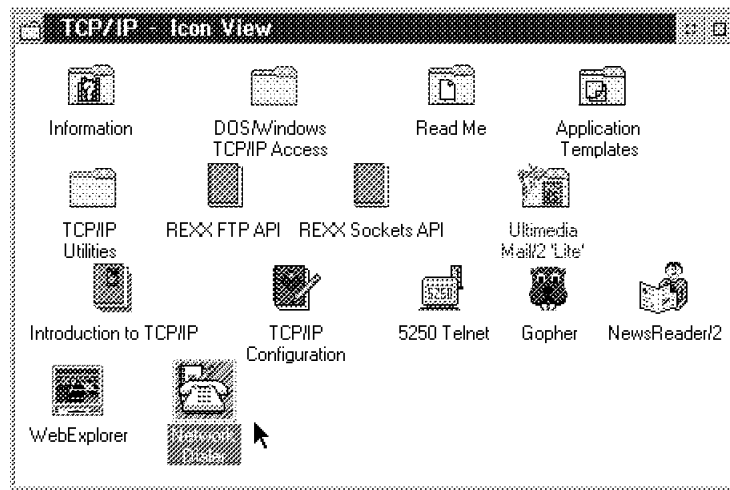

Figure 342. TCP/IP Folder
1. Open the TCP/IP folder and double click on the **Network Dialer** icon (see Figure 342).
Open the TCP/IP folder and double click on the **Network Dialer** icon (see Figure 342 on page 317).